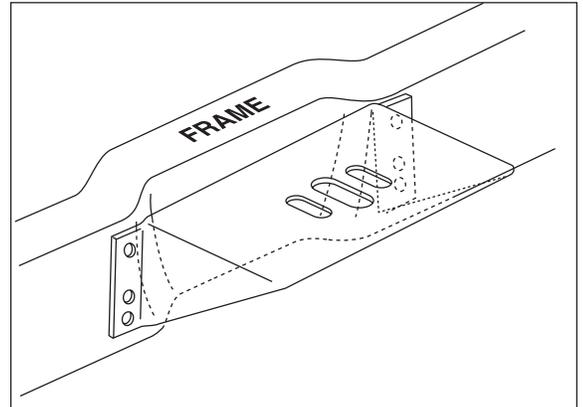

Figure 5
- a. *NOTE: When installing the upper bracket on an F-250 or F-350, the mounting bolt holes can line up directly over the indent in the frame. This is an acceptable situation and is an approved method of installation for the product (Figure 5). Torque the mounting hardware to specifications, as noted. Do not over torque.*